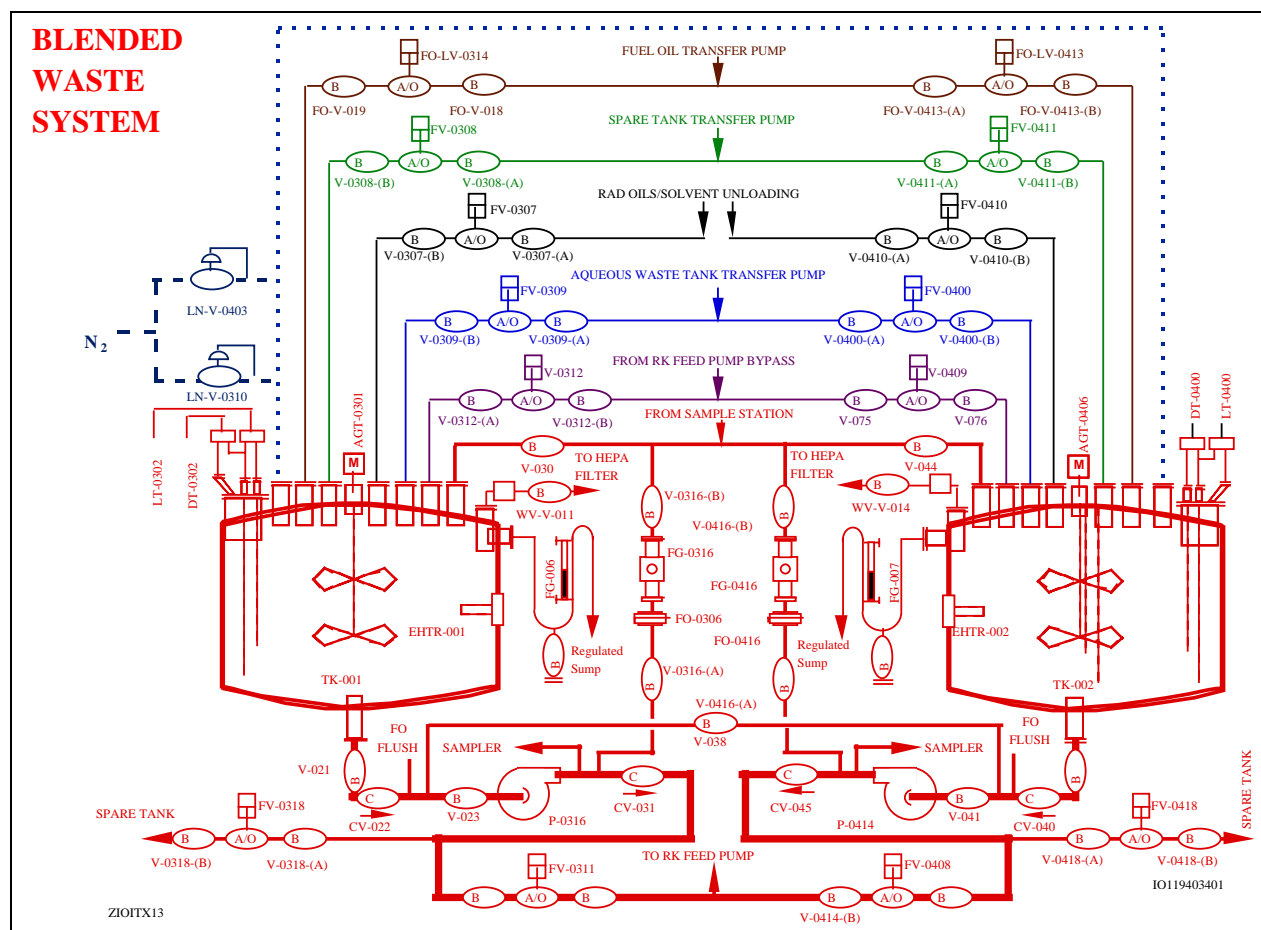
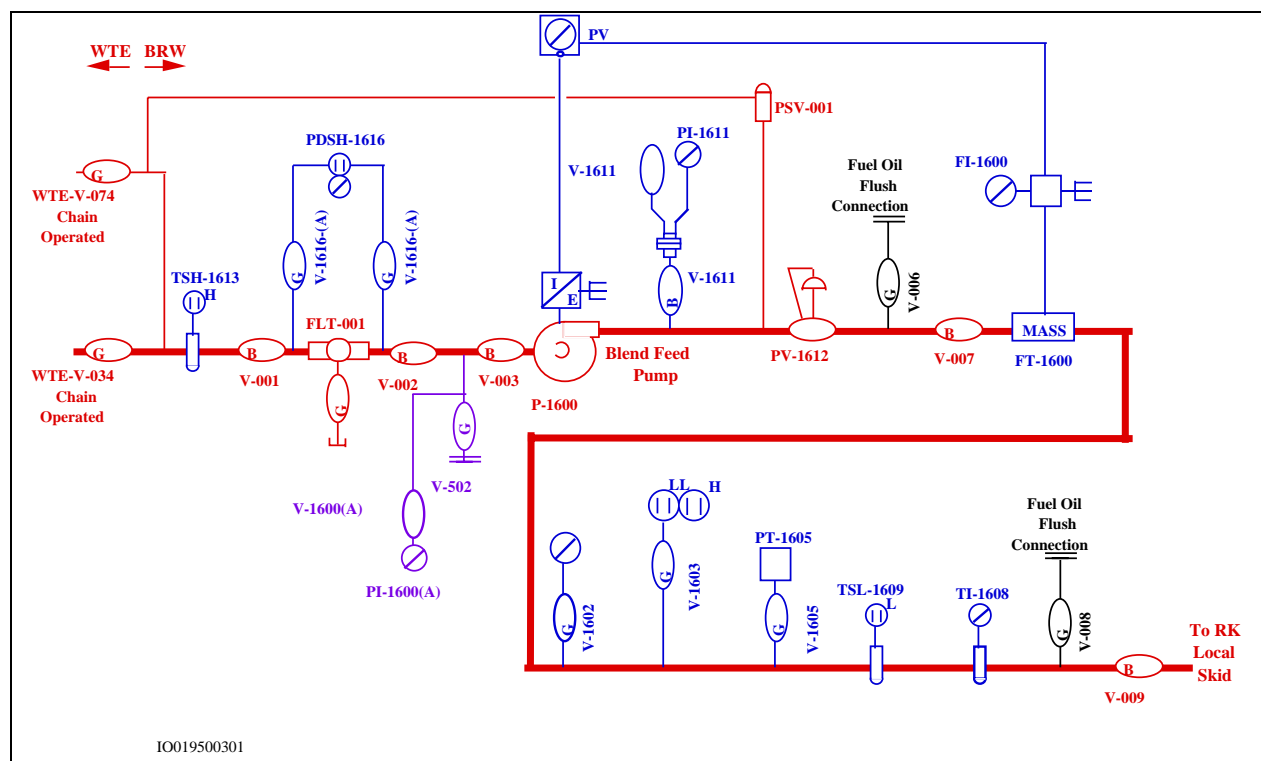
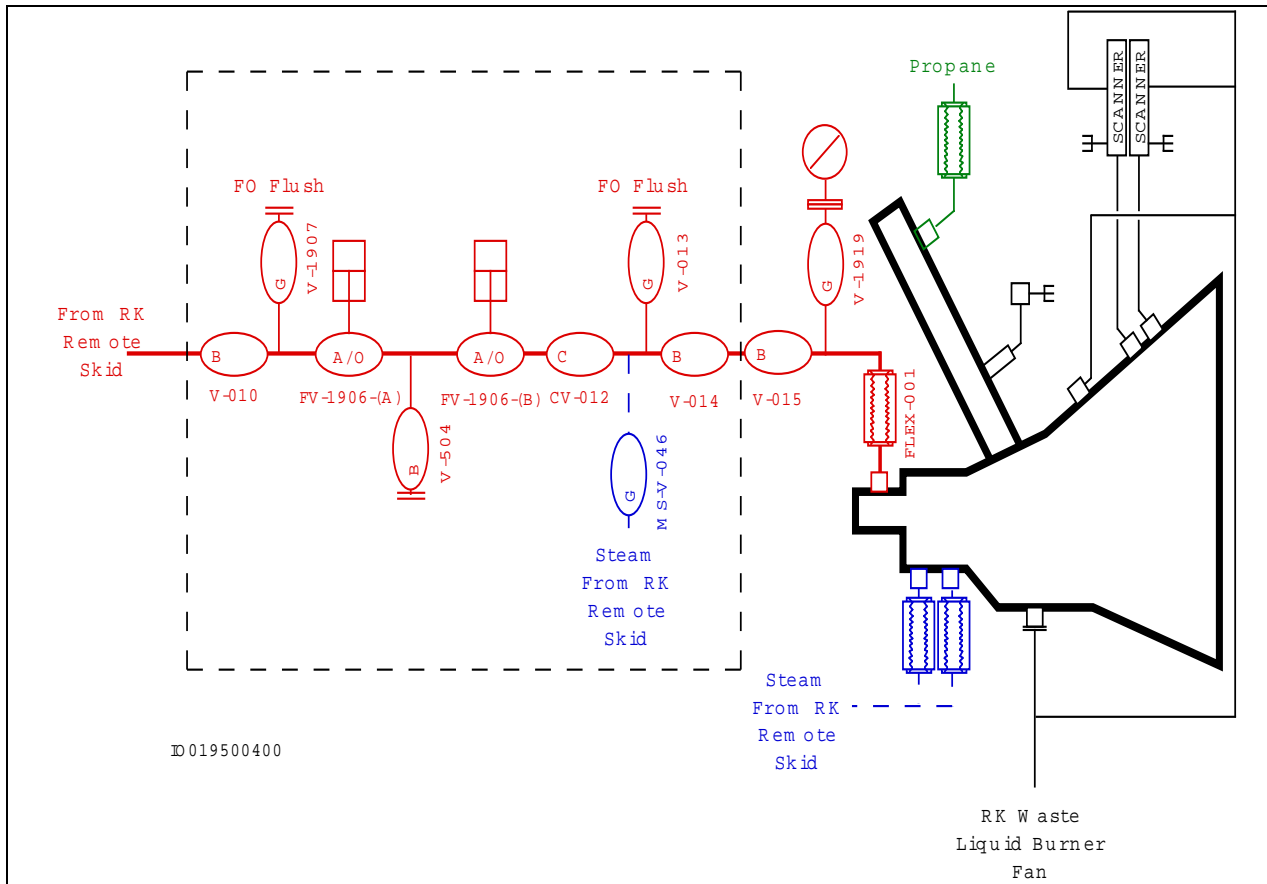

Figure 1 Blended Waste System Diagram
Figure 3 RK Remote Burner Skid
Figure 4 RK Local Burner Skid
The Blended Waste System is shown in Figure 1 *Blended Waste System Diagram*.
The flow path for Blended Waste originates in one of the Blend Tanks and passes through the associated Blended Waste Transfer Pump (See Figure 1) to the Blend Feed (metering) Pump on the RK Remote Burner Skid (Figure 3, *RK Remote Burner Skid*). From the Blend Feed Pump flow is metered to the RK Local Burner Skid and then to the RK Waste Liquid (WL) Burner (Figure 4, *RK Local Burner Skid*). Normal system flowpath can be interrupted by several different conditions, such as:
- Fuel Oil is mixed with the waste prior to metering to the Rotary Kiln (RK) to increase the heat value (Btu) of the Blended Waste as necessary.
- The flow path for Blended Waste originates in one of the Blend Tanks and passes through the associated Blended Waste Transfer Pump to the Blend Feed (metering) Pump on the RK Remote Burner Skid (Figure 3). From the Blend Feed Pump, flow is metered to the RK Local Burner Skid and then to the RK Waste Liquid (WL) Burner.
The supply valves associated with the Blend Tanks are pneumatically-operated valves, which are controlled through the DCS. Table 1, *Blended Waste System Pneumatic Valves*, lists the valves and their specific tank association with which system, and Figure 1 shows the valves within the system.